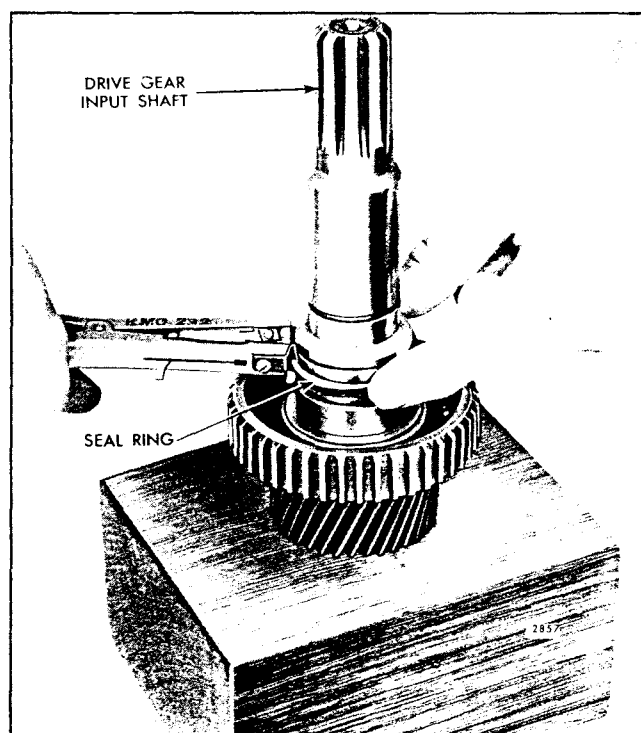

Fig. 29 - Removing Drive Gear Input Shaft Seal Rings from Shaft
- a. Place the non-splined end of the drive gear input shaft and forward clutch hub assembly in the 1" hole in the 3" x 6" wood block as shown in Fig. 29.
- b. Unhook the ends of the drive gear input shaft seal rings. Then remove the seal rings from the grooves in the shaft with a pair of snap ring pliers as shown in Fig. 29.